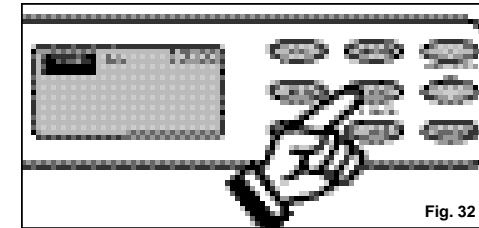
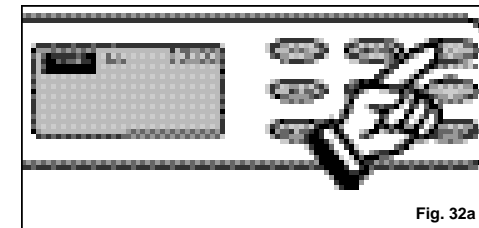
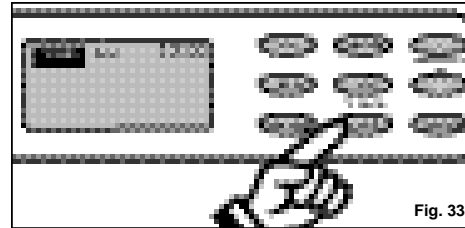
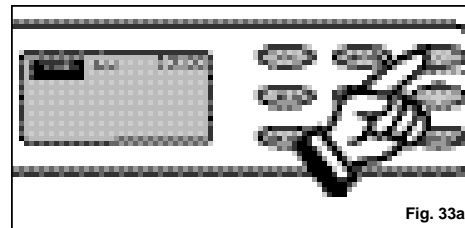

Fig. 32
Fig. 32a
Fig. 33
Fig. 33a
7) Press the **TIMER-ON** key pad to initiate the **AUTO-ON** time sequence. Fig. 32. The display window will indicate **TIMER-ON** and the word **ON** will flash for 5 seconds. Press the ▲ or ▼ key to select the desired **AUTO-ON** start time.
- 2) Press the **TIMER-OFF** key pad to initiate the **AUTO-OFF** time sequence. Fig. 33. The display window will indicate **TIMER-OFF** and the word **OFF** will flash for 5 seconds. Press the  $\Delta$  or  $\nabla$  key pad to select the desired **AUTO-OFF** time. Fig. 33a.
- 1) Press the **TIMER-ON** key pad to initiate the **AUTO-ON** time sequence. (Fig. 32). The display window will indicate **TIMER-ON** and the word **ON** will flash for 5 seconds. Press the **△** or **▽** key pad to select the desired **AUTO-ON** start time. (Fig. 32a). **▽** key pad will decrease the **AUTO-TIMED** setting in 10 minute increments. **△** keypad will increase the **AUTO-TIMED** setting in 10 minute increments. When the desired time is established, (the time will flash in the display window) press the **CLOCK** key pad to register the **AUTO TIMER-ON** program. The word **ON** will stop flashing and remain "on" (**TIMER ON**) indicating the program is set. The time of day clock setting will immediately revert back in the display window.
- 2) Press the **AUTO-OFF** key pad to initiate the **AUTO-OFF** time sequence. (Fig. 33). The display window will indicate **TIMER-OFF** and the word **OFF** will flash for 5 seconds. Press the **△** or **▽** key pad to select the desired **AUTO-OFF** time. (Fig. 32a). **▽** key pad will decrease the **AUTO-TIMED** setting in 10 minute increments. **△** keypad will increase the **AUTO-TIMED** setting in 10 minute increments. When the desired time is established, (the time will flash in the display window) press the **CLOCK** key pad to register the **AUTO TIMER-OFF** program. The word **OFF** will stop flashing and remain "on" (**TIMER OFF**) indicating the program is set. The time of day clock setting will immediately revert back in the display window.